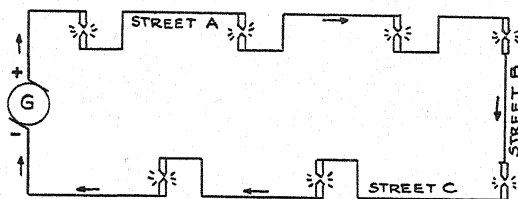

FIG. 6. Series arc lights for street lighting.
11. Series Circuits. There are many practical examples of series circuits. Strings of the smaller variety of colored lights for Christmas decorations are usually connected in series. Arc lights for street and highway illumination are connected in series. In Figure 6, a typical series-lighting diagram is shown.
Figure 6 shows the general idea of series circuits. Whatever current flows through one part of this circuit (or any other series circuit), must pass through all the other series parts. This is because a series circuit has only one path for the current. In the diagram in Figure 6 it is shown that if 100 electrons leave the + side of the generator, the same 100 electrons finally must
Now, suppose each street light causes the electric pressure (e.m.f.) behind the current to lose 20 volts (IR drop). Then, in passing through the 7 arcs shown in the Figure 6 circuit, the total voltage lost would be 20×7 , or 140 volts. Therefore, even if no further voltage drop occurred in the long wires on poles between lamps, generator G would have to supply at least 140 volts to keep the current flowing in the circuit. Less than 140 volts would cause the arcs to sputter or not light at all. More than 140 volts would burn the carbons too much and cause lamp failures. And if one part of a series circuit burns out, none of the other parts have current. What happens when one lamp in a series Christmas-tree "string" burns out? The same thing is true of all series circuits.